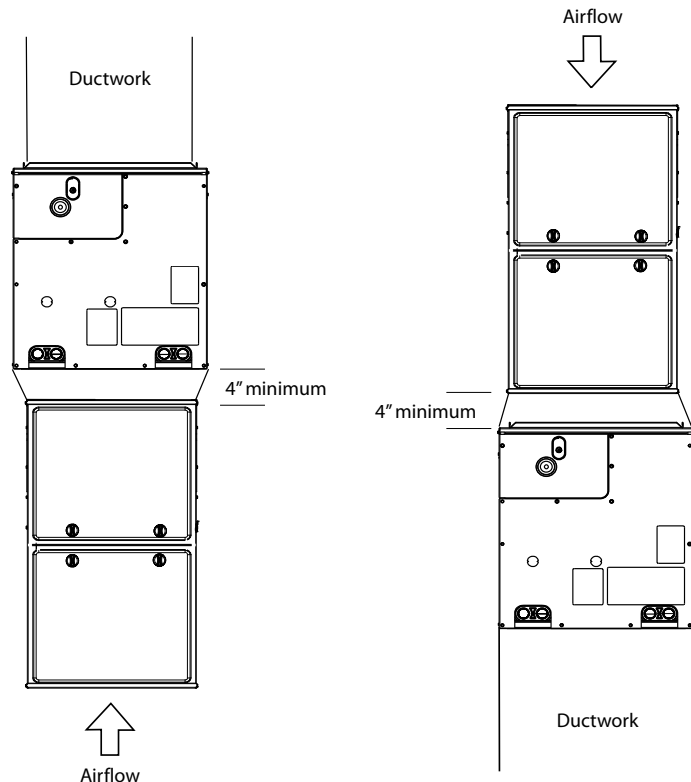

Fig. 3 – Adapter(s) Installation When Coil is Larger than Furnace
3. When installing wider coil on narrower furnace, it is recommended to use a transition adapter (Fig. 3).